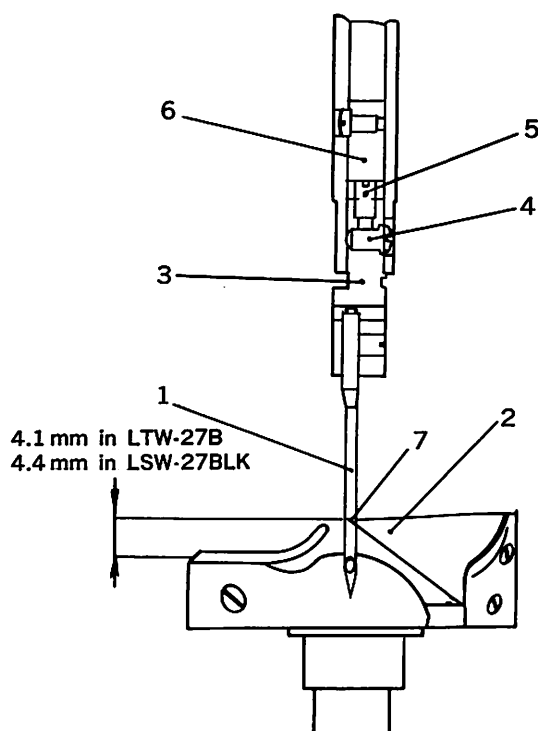

Fig. 29
- III. Turn hook only so that hook point comes to the needle as (7)—Fig. 29.
- IV. To correctly adjust the position of the needles (1) relative to hook points (2), remove the needle clamps (3) from their respective needle bars by removing needle clamp set screw (4). Upon removing the needle clamps, needle clamp adjusting screw (5) become accessible. Turn adjusting screw (5) either in or out to obtain the 4.4 mm (11/64") in LSW-27BLK (4.1 mm (5/32") in LTW-27BK) distance between the eye of the needle when at its lowest position and the hook point (Fig. 29) after the needle clamps with needles have been replaced on the needle bars.